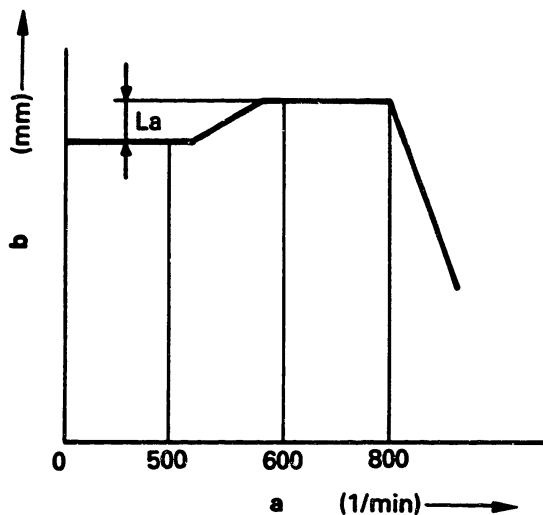

Fig. 71
- Using a wrench make adjustments by means of adjustment screw (181/3), while raising and lowering pump speed within the range of 500 to 600 rpm; specified value "La". (Figs. 71 and 72).